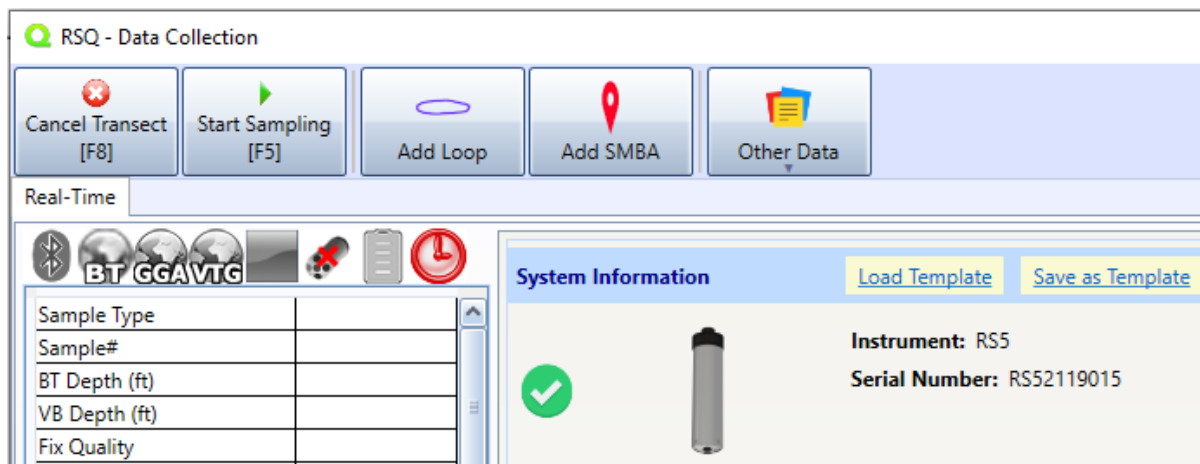
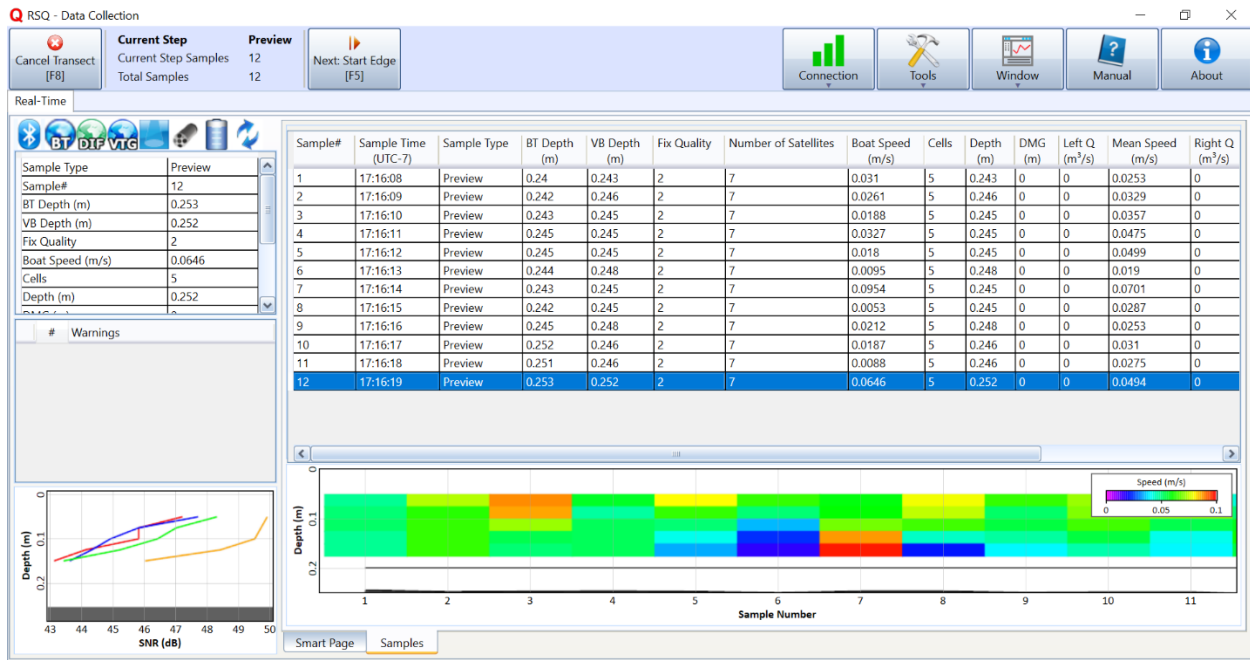

Figure 70. Options for Beginning Data Collection
Figure 78. Start Sampling Preview
After completing the Pre-measurement tests and initial site-specific entries to configure the System from the Smart Page, begin the measurement procedure. From the Smart Page screen, the main toolbar will offer various choices to begin a measurement, as shown in Figure 70. Depending on the measurement procedure, the user may be required to perform a moving bed test (Loop or SMBA) prior to collecting transects, or they may proceed to start the main measurement directly. The software provides a step-by-step procedure outlined below. Each step is explained in detail in the following sections.
1. To begin an SMBA moving bed test, press the Add SMBA button from the Smart Page (shown in Figure 70). The dialog shown in Figure 74 will appear.
From the Smart Page, click the Start Sampling button (or use [F5]) to begin data collection (Figure 70). Alternatively, sampling can begin from the Loop or SMBA dialogs by choosing to proceed to the Start Edge. The data preview display will appear (Figure 78).